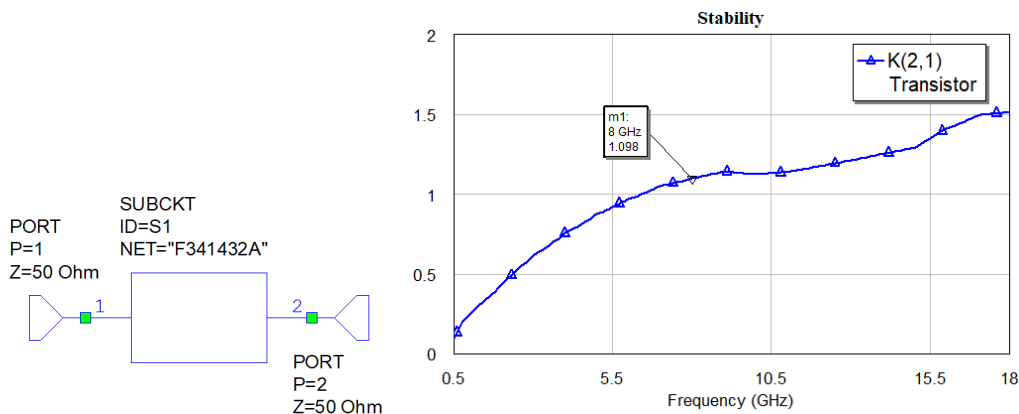

Fig. 1 Stability factor of the ATF-34143 transistor.
- Perform an analysis whose result is shown in Fig. 1.